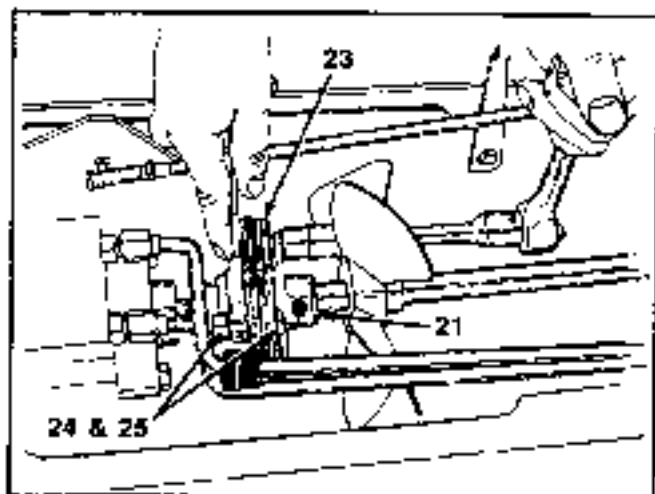

FIGURE 16.
19. Remove the two hex nuts and hex bolts at rear coupling and flexible disc. See figure 16